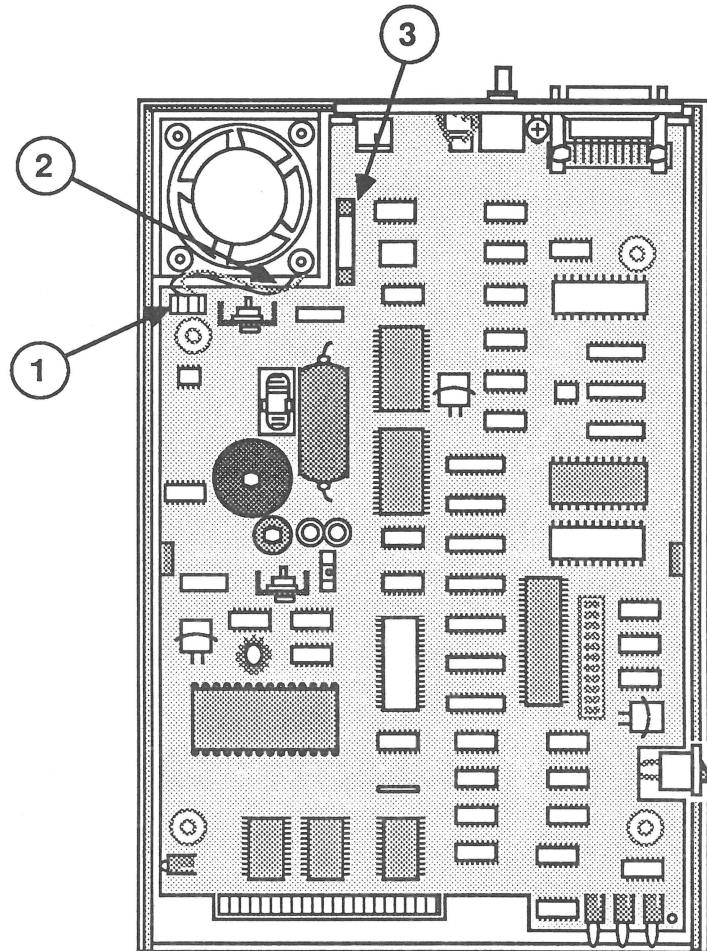

FIGURE 2
2. Disconnect the fan cable from the logic board (Figure 2, #1).
2. With the air-flow arrow pointing down, rotate the fan so that the fan cable exits the fan housing toward the front of the AppleLine (see Figure 2, #2). Lower the fan into the case bottom.
3. Connect the fan cable to the logic board (Figure 2, #1).
2. Use a screwdriver to slowly pry the fuse up and away from its mounting clamp (Figure 2, #3).
1. Place the new fuse above the mounting clamp so that the metal ends of the fuse align with the metal ends of the clamp (Figure 2, #3). Press down on the metal ends of the fuse until the fuse snaps into place.